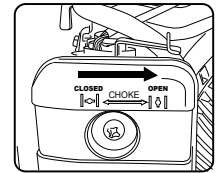

Fig. 9
To hot-start (the machine has been running) the choke valve shall be turned to the position OFF (see Figure 9).
- Turn choke valve to the open position (see Figure 9) once the engine has run for more than 20 seconds (more than 30 seconds in colder weather).